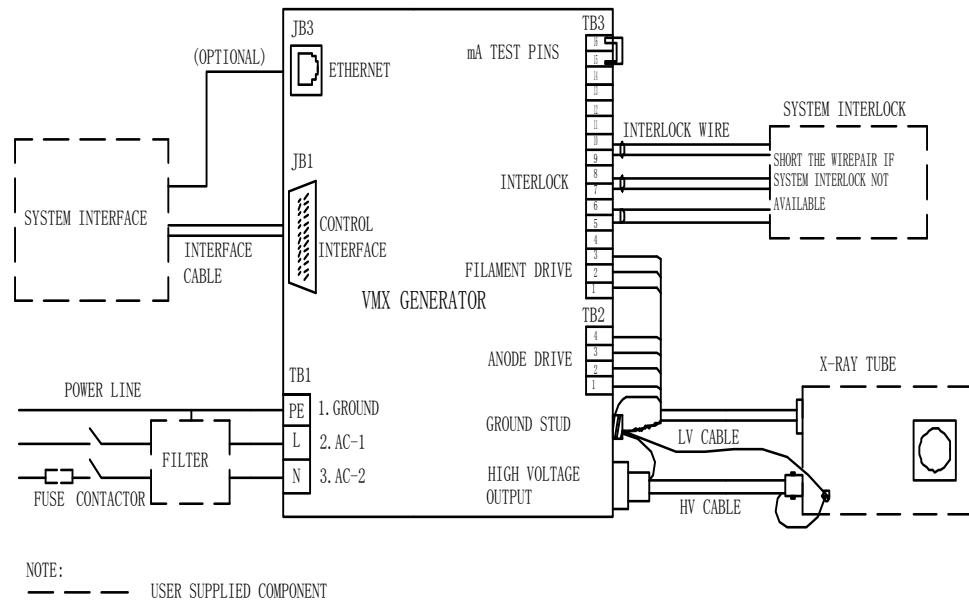

Figure 2-2: Overall connection
3. A three-wire terminal block (TB1) is provided for connecting to the AC supply (refer to figure2-2).
Tube current test pins are provided for monitoring the actual tube current (mA) if needed. Normally, a jumper is installed to short the two pins (refer to figure2-2).
The chassis of the high voltage power supply must be grounded to the local earth ground and also to the tube housing ground. See Figure 2-2 for typical operating setup. A three-wire terminal block is provided for connecting to the AC supply.